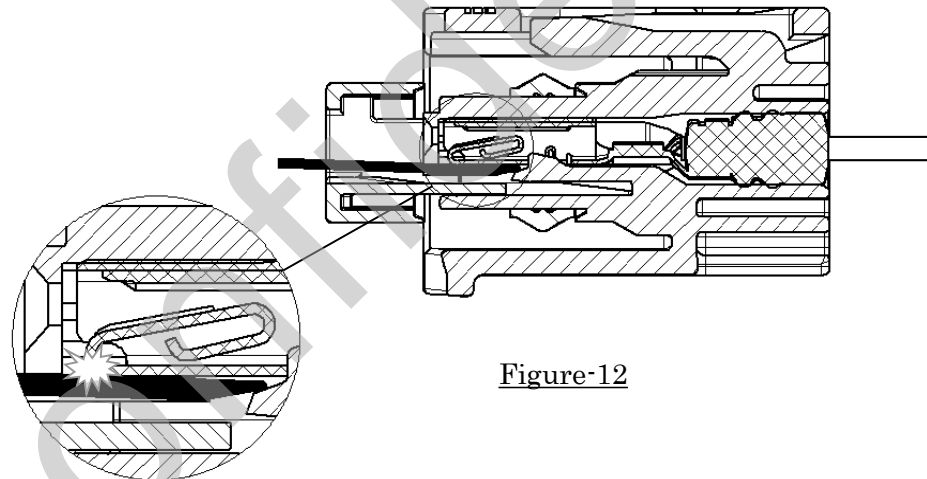

Figure-12
- Do not use the terminal spring as a supporting point as shown in Figure-12